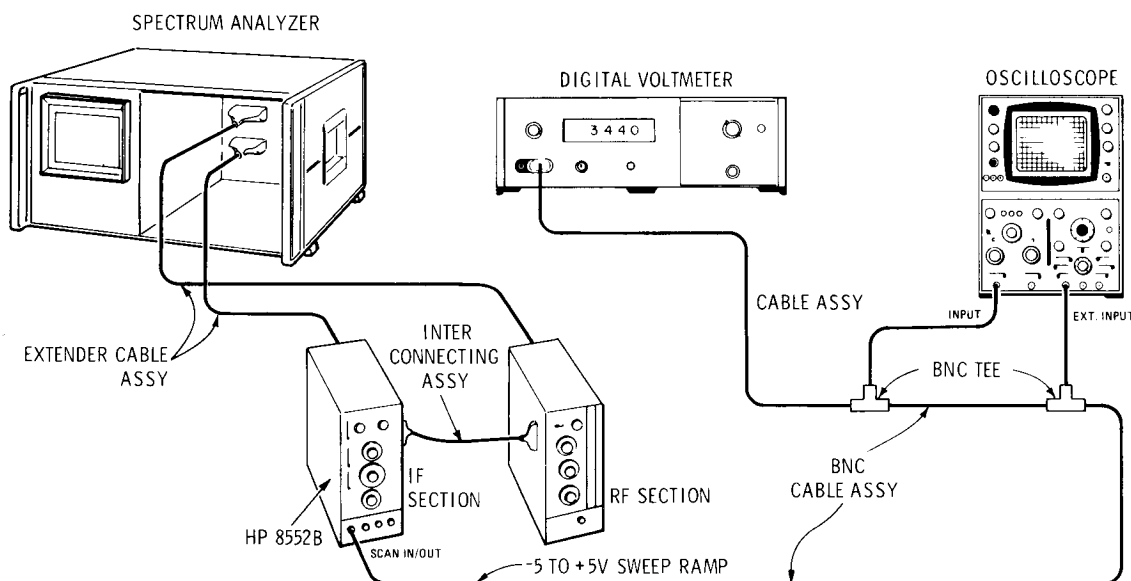

Figure 5-2. Scan Generator Check and Adjustment Test Setup
1. Connect the test setup shown in Figure 5-2 and make the following control settings: